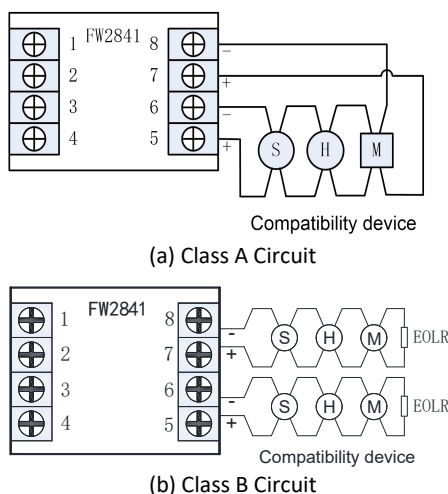

Figure 3 Wiring Diagram (Initiate device circuit)
3. Connect the input line circuit wires. See Figure 3. The maximum line impedance for input circuit is 25 Ω .